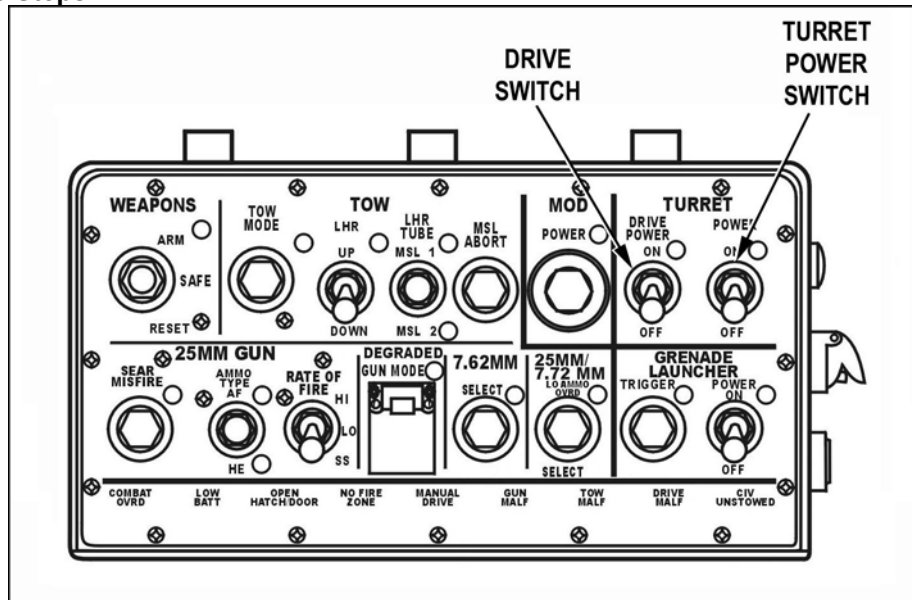

Figure 22. TURRET POWER and DRIVE switch.
- (1) Squeeze and hold palm switch, then squeeze and release trigger switch.
- (2) If gun does not stop firing when trigger switch is released (runaway gun), refer to the referenced TM.
- i. To exit DEGRADED GUN MODE, cycle turret power and drive switches (Figure 22).